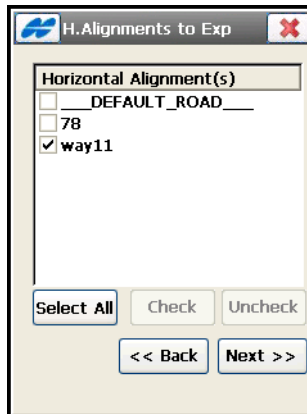

Figure 4-49. Select Horizontal Alignments
- **Next** – opens the *H.Alignments to Exp* screen to select alignments (see Figure 4-49 on page 4-43).